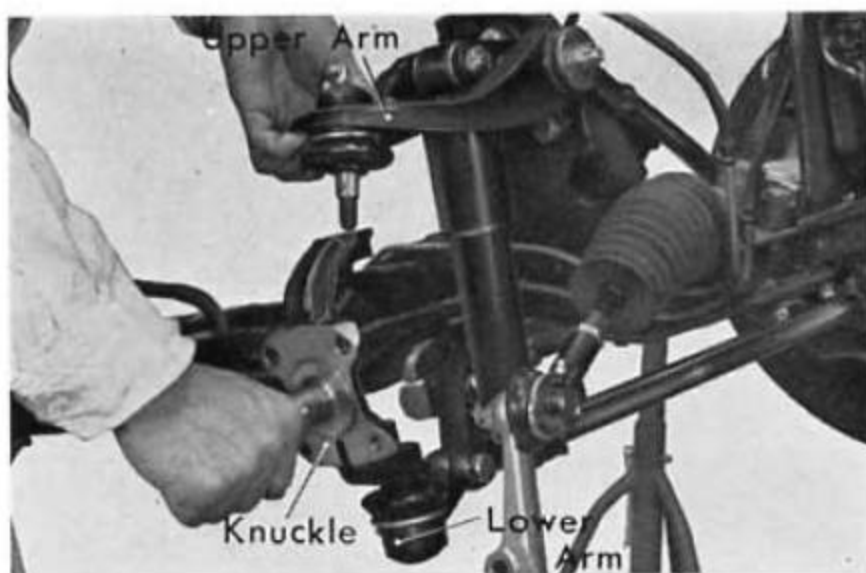

Fig. 15B-7
8. Install the knuckle on the upper arm and lower arm by tightening the slotted nuts and installing the cotter pins (Fig. 15B-7, 8).